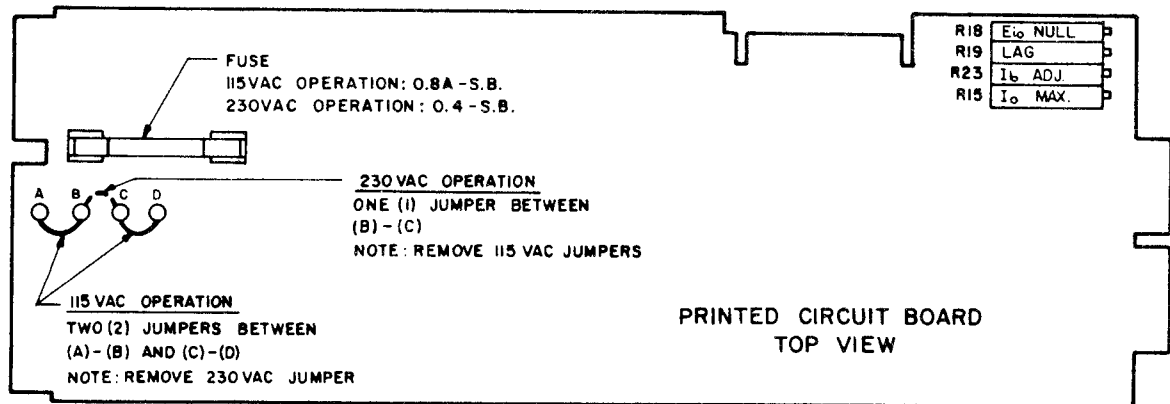
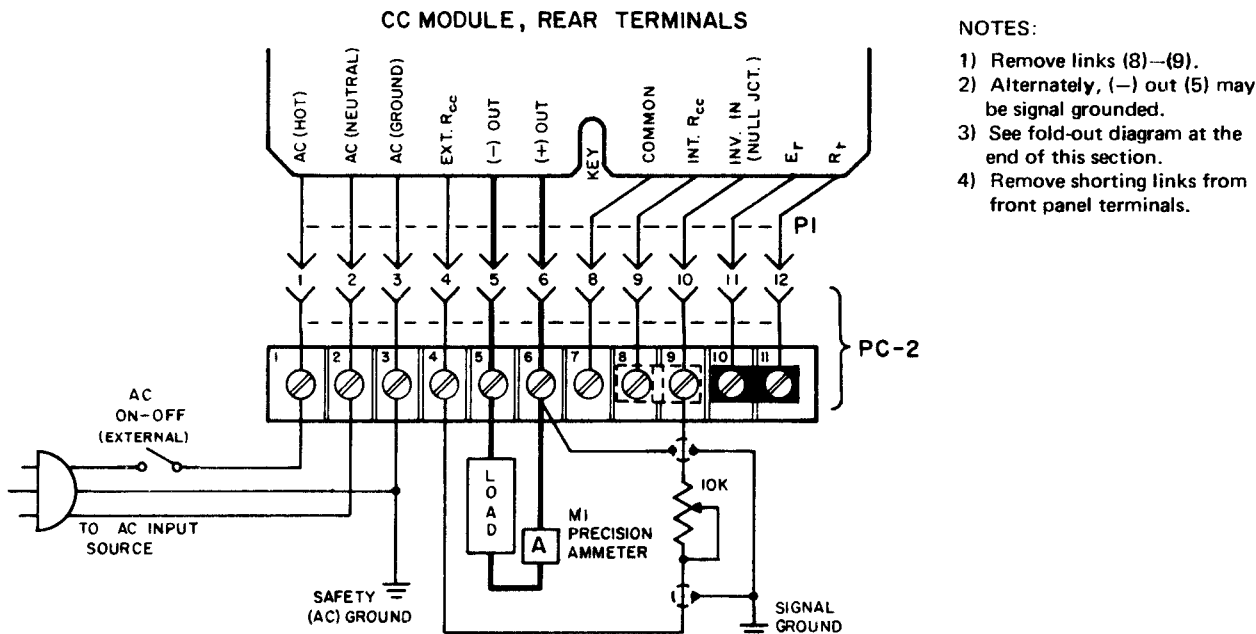

FIG. 2-1 LOCATION OF SOURCE SELECTOR AND INTERNAL ADJUSTMENTS.
FIG. 3-4 PROGRAMMING RATIO ADJUSTMENT FOR REMOTE RESISTANCE CONTROL.
- c) INTERNAL ADJUSTMENTS: Refer to TABLE 2-1 and FIG. 2-1.
2-5 CC Current Stabilizers are normally delivered for operation on a single phase, 105 to 125V a-c input source, 50 to 440 Hz. For operation on 210 to 250V a-c input sources, the jumper connections for the main transformer (T201) must be changed as shown in FIG. 2-1.
- b) Remove bare wire jumpers between terminals (A) and (B) as well as (C) and (D).
- c) Connect bare wire jumper between jumper terminals (B) and (C).
- d) Insert correct fuse value. (See FIG. 2-1.)
- a) With the external programming resistor connected as shown (Refer to FIG. 3-4), and a precision ammeter in series with the load (optional, since the panel ammeter may be used if an accuracy of $\pm 3\%$ is sufficient), locate the " I_b adj." and " E_{i0} null" controls on the printed circuit board (Refer to FIG. 2-1).